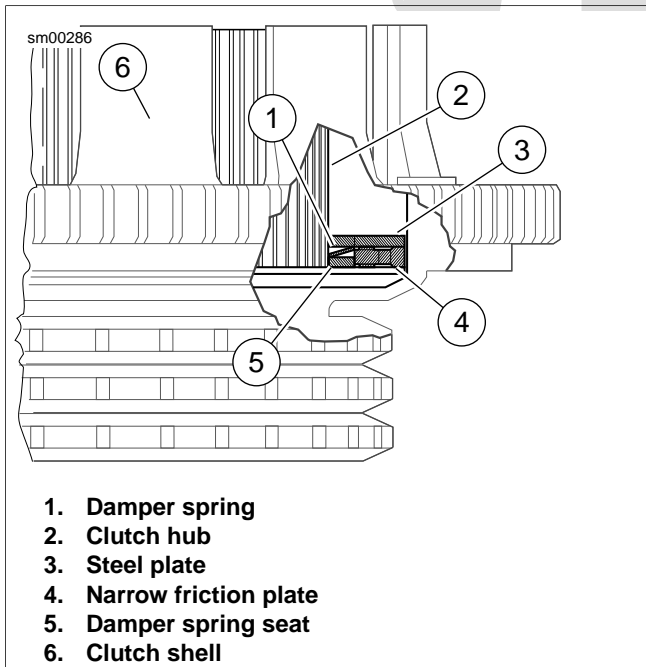

Figure 5-20. Clutch Pack Stack-Up (Cut-Away View)
3. See Figure 5-20. Install damper spring seat (5) on clutch hub so that it seats inboard of narrow friction plate (4).
4. Install damper spring (1) on clutch hub with the concave side up (facing opposite damper spring seat).